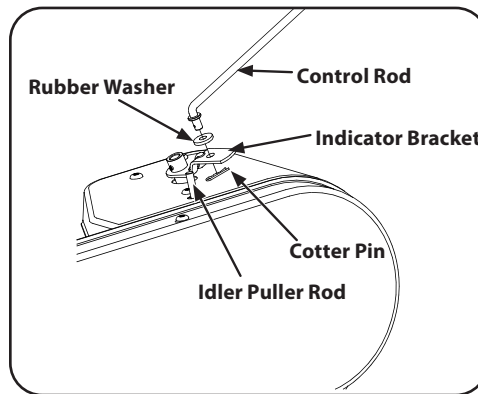

Figure 4-1
3. Remove the cotter pin and spring washer from the idler pulley rod. See Figure 4-1.